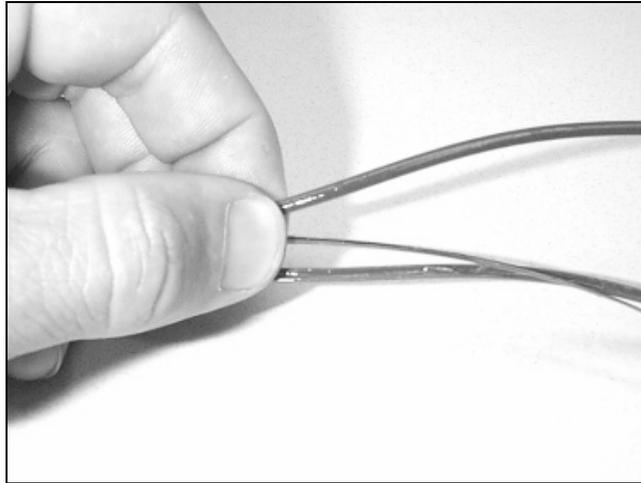

Figure 3 – Separate the fibers from the split buffer tube.
5.7 Carefully separate the fibers from the two sections of buffer tube (Figure 3).